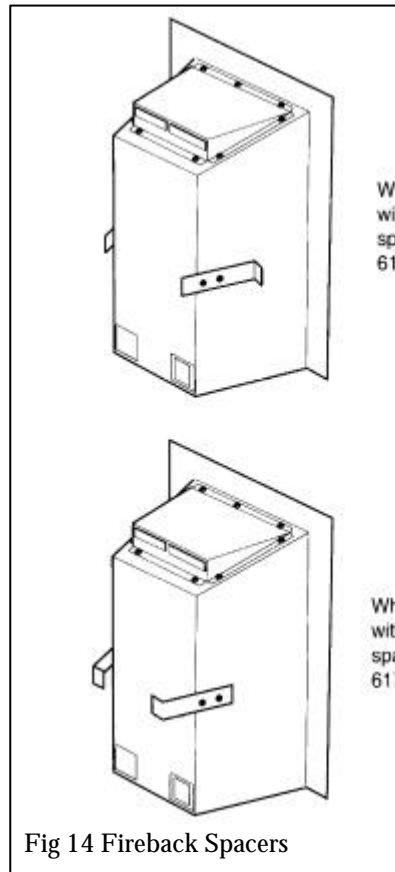

Fig. 14 Fireback Spacers
6.5 The appliance is supplied with two fireback spacers extending backwards to ensure sufficient clearance from the back of the fireplace when installed without the spacer kit 617K. If the appliance is being installed with the spacer kit, reverse the fireback spacers. This will give the minimum rear clearance required when used with the spacer kit (see figure 14). **If the kit is not used do not reverse the fireback spacers. Never totally remove the spacers.**